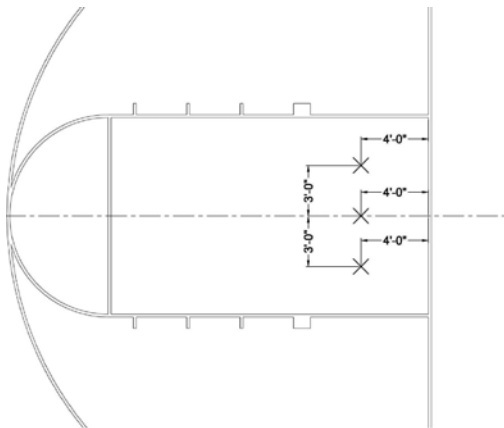

Figure 6
7. Using masking tape and pencil, Mark the location of the center of the court 4'-0" from the inside edge of the court baseline (refer to figure 6). From this center mark, establish a mark 3'-0" to the left and another mark 3'-0" to the right. These marks will be used to align the face of bank to the court.